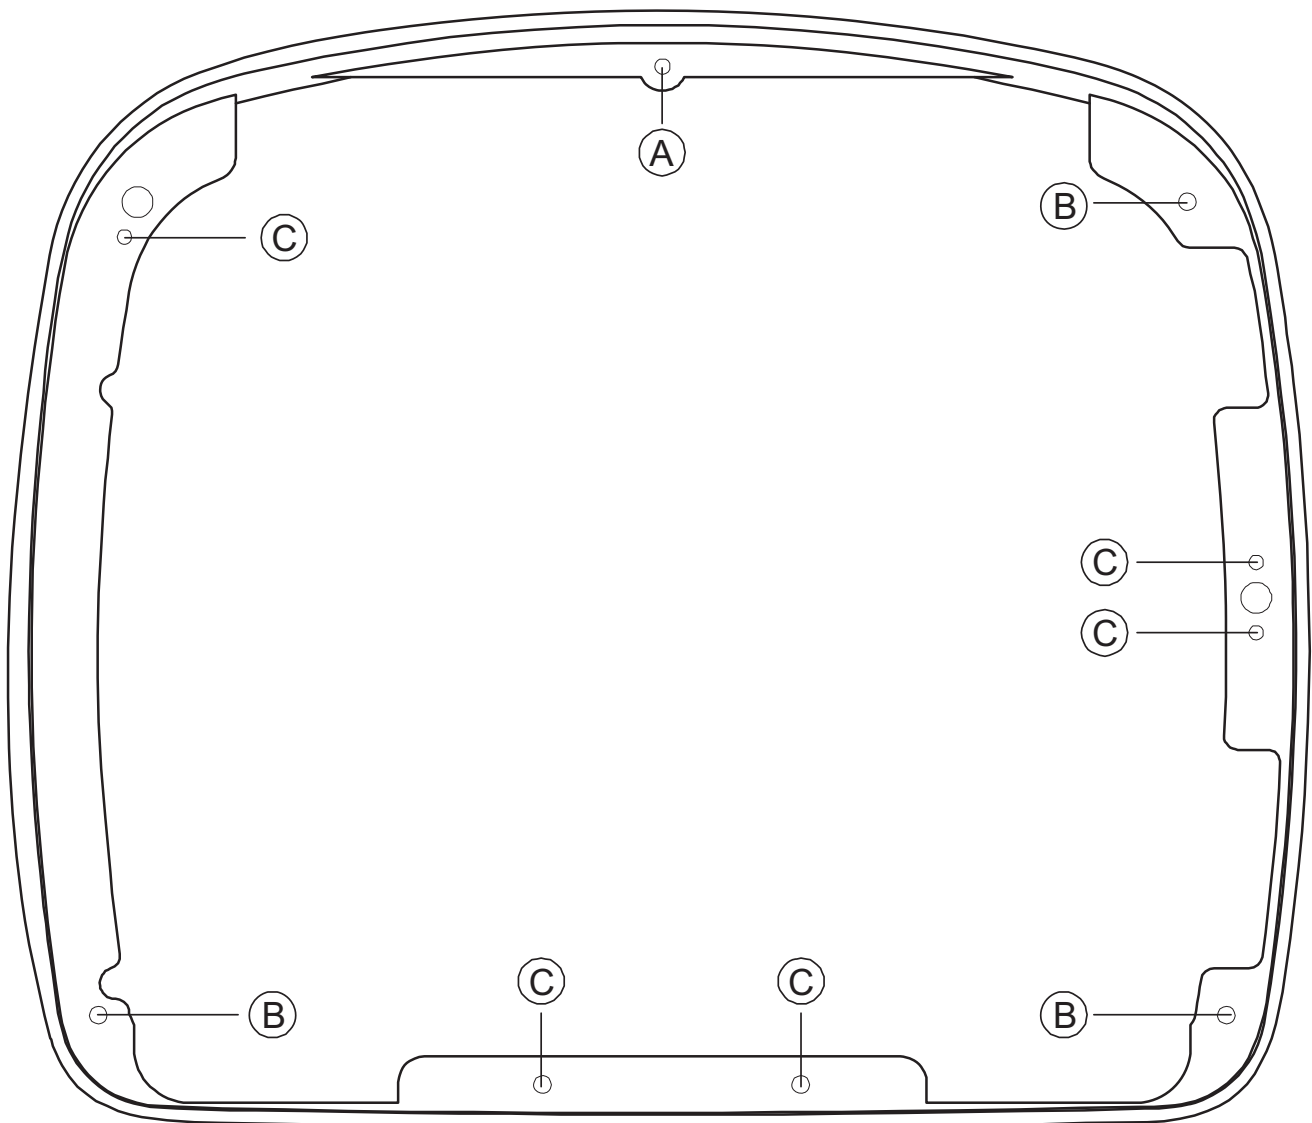

FIGURE 76
- 2.) ATTACH THE DVD ASSEMBLY TO THE TRIM RING USING A SCREWDRIVER AND THE 9 TRIM RING SCREWS. (SEE FIGURE 76)